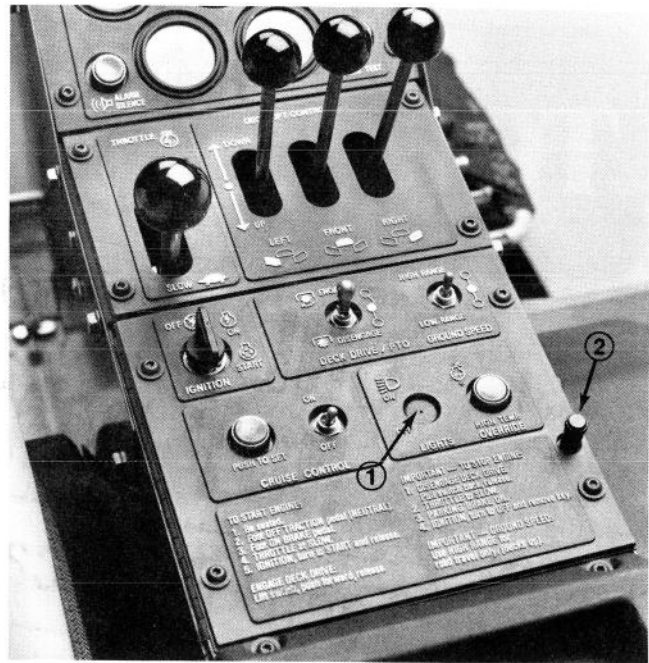

Figure 4
- Locate light switch mounting location on the control panel (Fig. 4).
- Open the control panel cover. Use a punch and hammer to knock the plug out at the mounting location (Fig. 4).